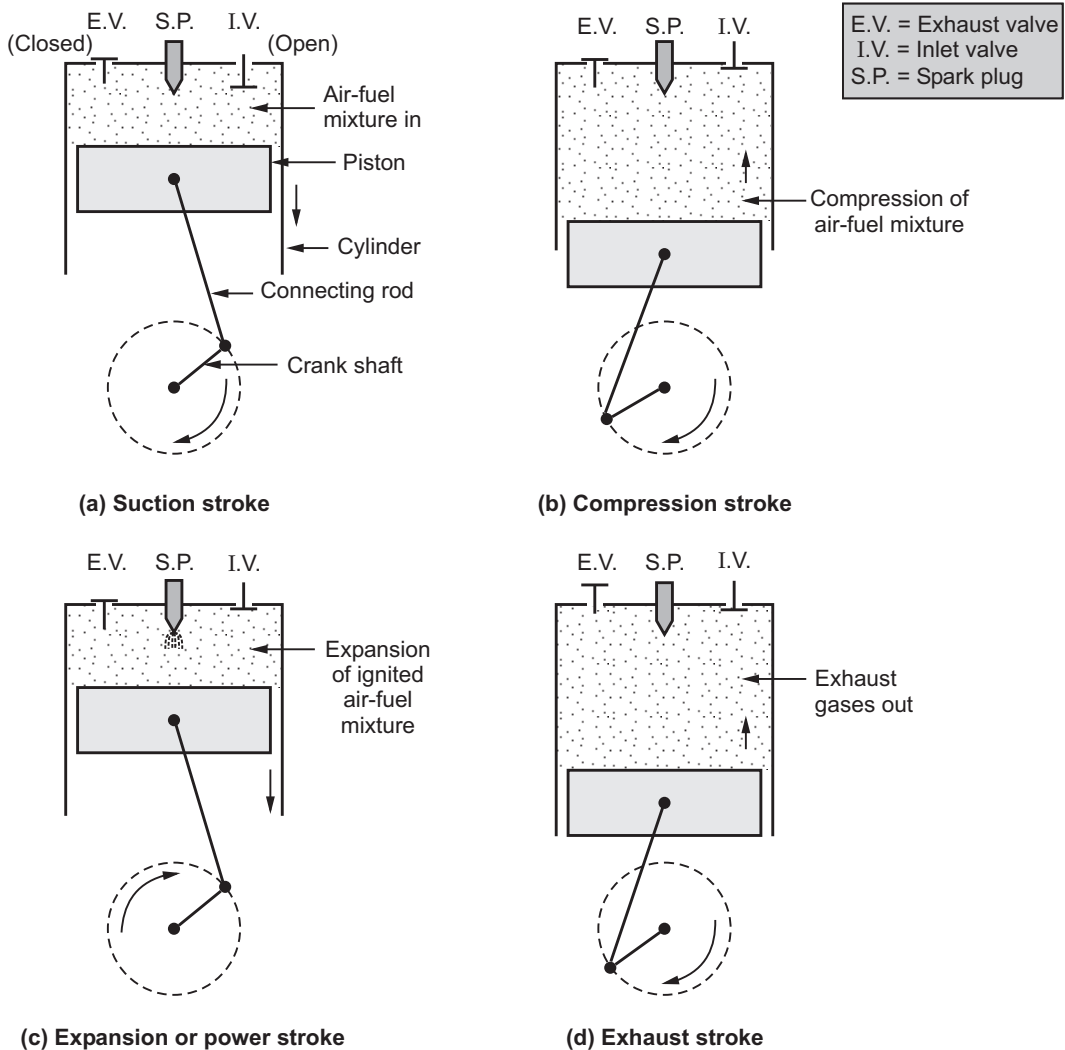

Fig. 4.3 : Four stroke petrol (S.I.) engine
- Four stroke cycle engine consists of following strokes (Refer Fig. 4.3) :